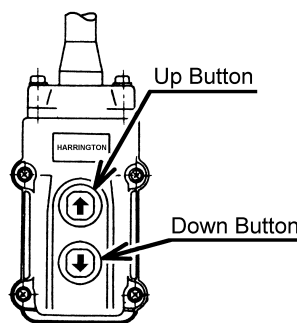

Figure 4-1 Push Button Pendant Control
- 4.3.2 Single Speed Pendant Control – When using the pendant control depress the up button to raise the hoist or the down button to lower the hoist as shown in Figure 4-1 below. To stop motion release the buttons.
- 4.3.3 Dual Speed Pendant Control – Pendant controls supplied with dual speed hoists have two step control buttons. For low speed depress the button to the first step and for high speed depress the button fully to the second step. Use the up button to raise the hoist or the down button to lower the hoist as shown in Figure 4-1 below. To stop motion release the buttons.